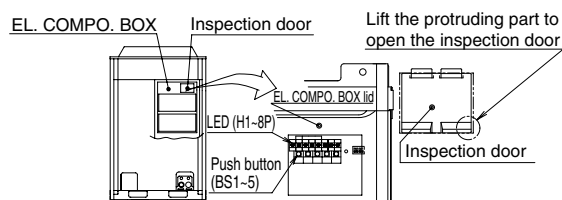

figure 29
- For performing the automatic refrigerant charging operation, the push button on the PC-board (A1) of outside unit is used. (See figure 29.)